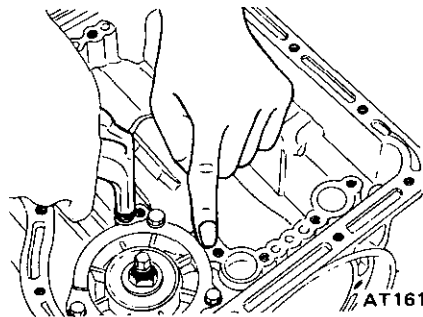

Fig. AT-94 Testing piston (Release side)
4. With apply-side of piston plugged with thumb, blow compressed air into cylinder from release-side as shown in Figure AT-94. If retainer is raised a little, it is an indication that attaching bolts are loose, calling for retightening.